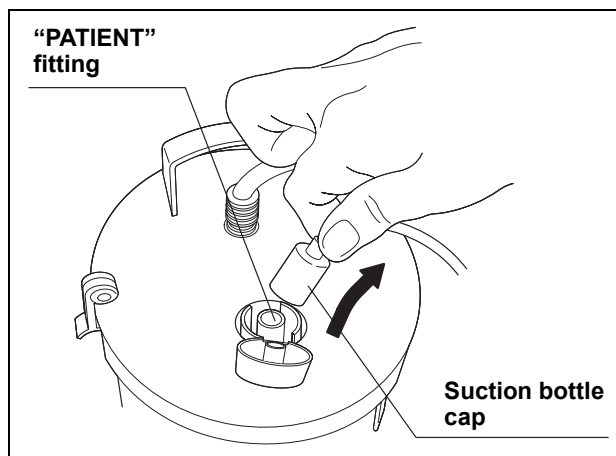

Figure 7.7
6. Detach the suction bottle cap of the irrigation/suction tube from the "PATIENT" fitting of the suction bottle (see Figure 7.7).